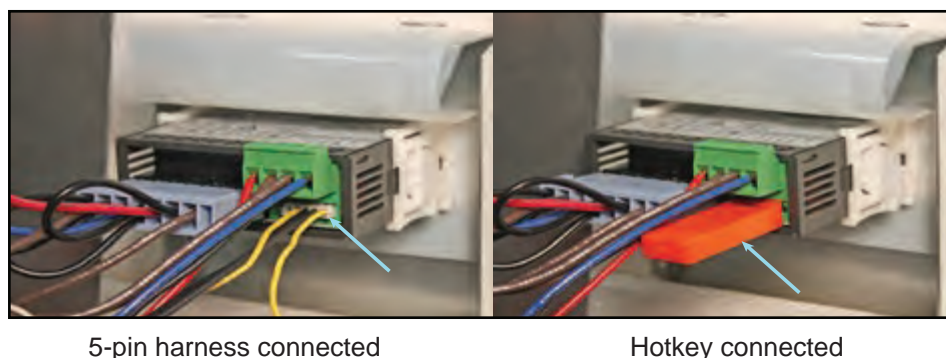

Figure 5 – Programming Using a Hotkey
3. Disconnect 5-pin harness from rear of controller (See **Figure 5**).
4. Insert hotkey into 5-pin receptacle on rear of controller (See **Figure 5**).
8. Remove hotkey from rear of controller (See **Figure 5**).
9. Connect 5-pin harness to rear of controller (See **Figure 5**).
2. Disconnect 5-pin harness from rear of controller (See **Figure 5**).
3. Insert pre-programmed hotkey into 5-pin receptacle on rear of controller (See **Figure 5**).
5. Remove hotkey from rear of controller (See **Figure 5**).
6. Connect 5-pin harness to rear of controller (See **Figure 5**).